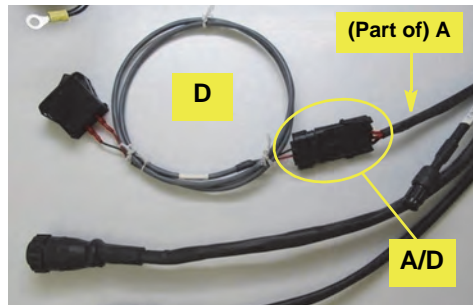

Figure 1d: Connecting the power switch cable
- e. Connect power switch cable **D** to the 4-pin connector on interface cable **A** (Figure 1d).